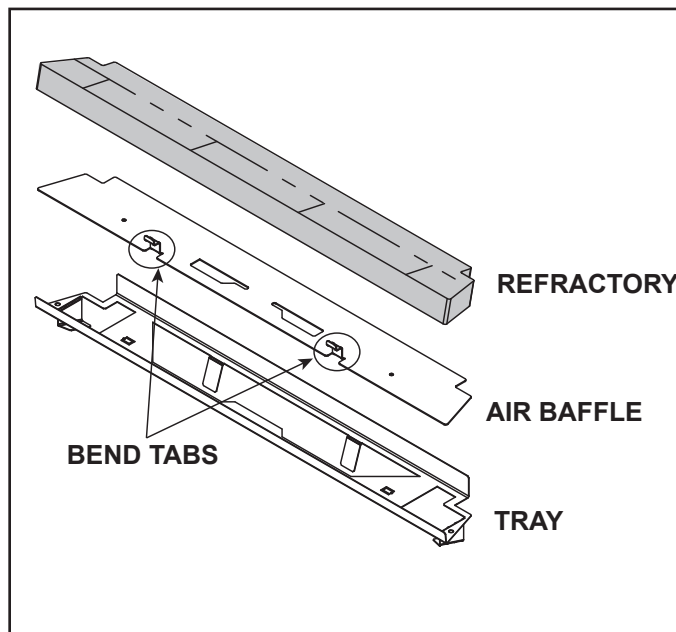

Figure 17. Bend Refractory Tabs
17. Bend tabs upward, as shown in Figure 17.